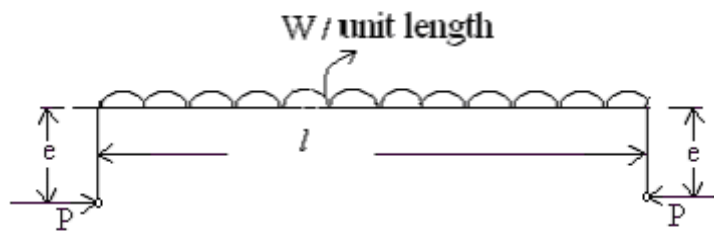

Figure 7
7. A pin jointed strut carries a **UDL** of intensity ' w ' per unit length and an eccentric axial load P at an eccentricity of ' e ' as shown in figure 7. Find the deflection at mid span of the strut. [16]